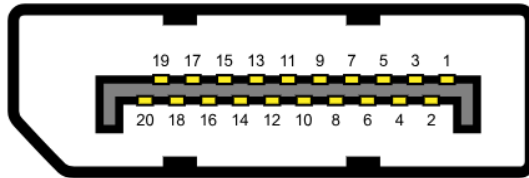

Figure 3-27: DP Connector Pinout Locations
- CN Pinouts:** See Table 3-23 and Figure 3-27